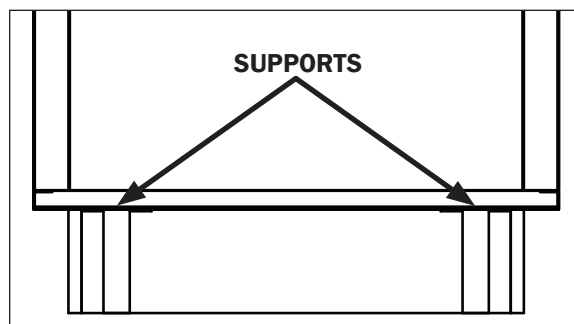

Fig. 1 Vertical supports (30" Profile)
7. Locate vertical (bullet leg) support positions along the chalk line (Fig. 1). Spot properly leveled shim packs at each support location.